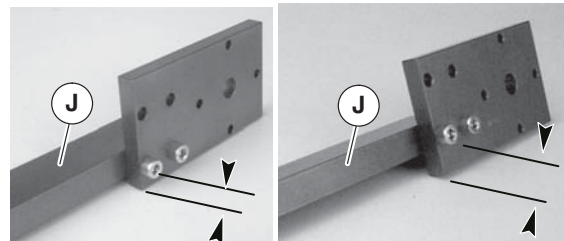

Figure 4
3. Check gearmotor support assembly (Figure 4, item J) setup: 2100 (left) and 4100 or 6100 (right).